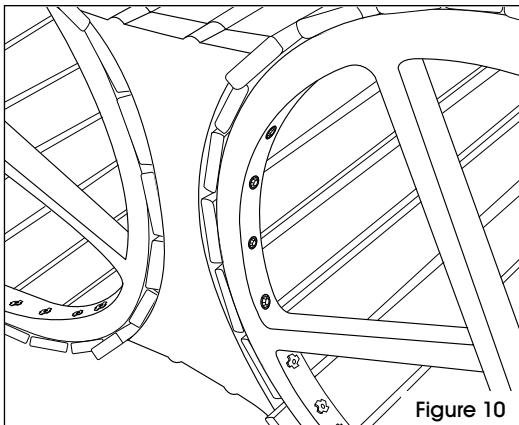

Figure 10
14. Carefully lay the attached receptacles on their side and attach the connector to the second receptacle at the bottom ring using the 3½" lag screws and flat washers. (See Figure 10)